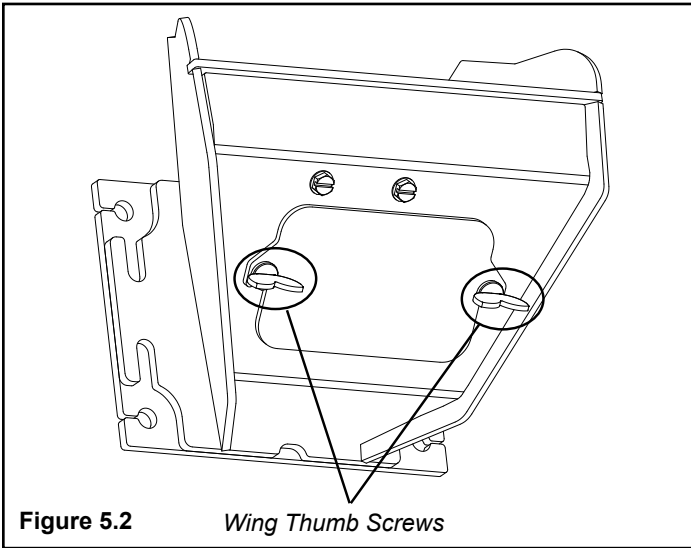

Figure 5.2 Wing Thumb Screws
- Loosen the (2) wing thumb screws on the lower front angle of the burn pot. Figure 5.2